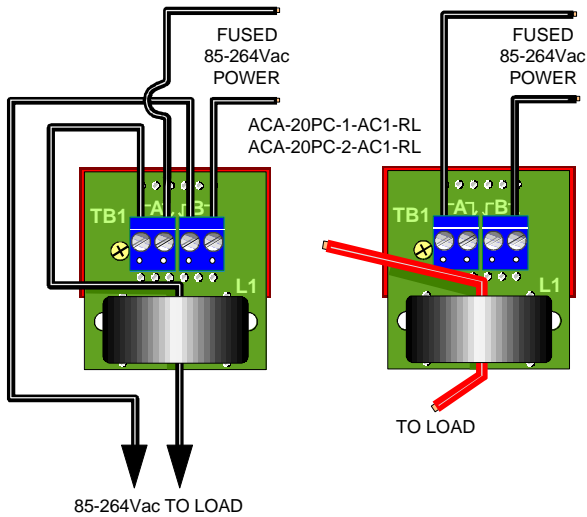

Figure 3. 2A and 20A, 85-264V AC-Powered Models With Auxilliary Load Connections
- ① The ACA-20PC-1-AC1-RL and ACA-20PC-2-AC1-RL have 4-position on-board terminal blocks. All other models have 2-position terminal blocks.
- ② Specified full-scale currents are those passing through the built-in CT's primary (load) circuit, over the frequency of 45-450Hz. The Overcurrent Rating is a continuous rating that applies to the measured ac load current. It does not apply to any circuitry external to the meter. Accuracy is guaranteed to the rated current.
- ③ For the ACA-20PC-2-AC1-RL, if the load is connected to the meter's on-board 4-position terminal block, the 20A full scale range requires 12AWG solid copper wire on all connections. If 14AWG solid copper wire is used, the current should be limited to 15A. See Figure 3.
- ④ All specified maximum power supply currents are steady-state values. AC-powered models can draw higher surges at initial turn-on.
- ⑤ Maximum reverse polarity protection on "DC1" models is -40Vdc, and -50Vdc on "DC2" models. "DC3" models provide no reverse polarity protection.